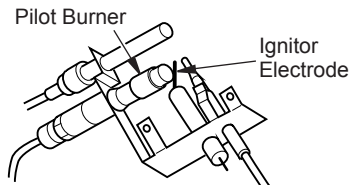

**Figure 22 - Control Knob and Ignitor Button Location (Shown as Supplied, No Control Options)**
- Wait five (5) minutes to clear out any gas. Then smell for gas, including near the floor. If you smell gas, STOP! Follow "B" in the safety information, page 18. If you don't smell gas, go to the next step.
- Press in and turn control knob counterclockwise ↶ to the PILOT position. Press in control knob for five (5) seconds (see Figure 22).